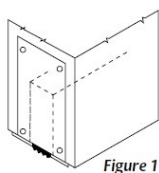

Figure 1
3. Install the flat end cover plate on the lock edge of the door with the fasteners provided, and in the location shown (Figure 1).